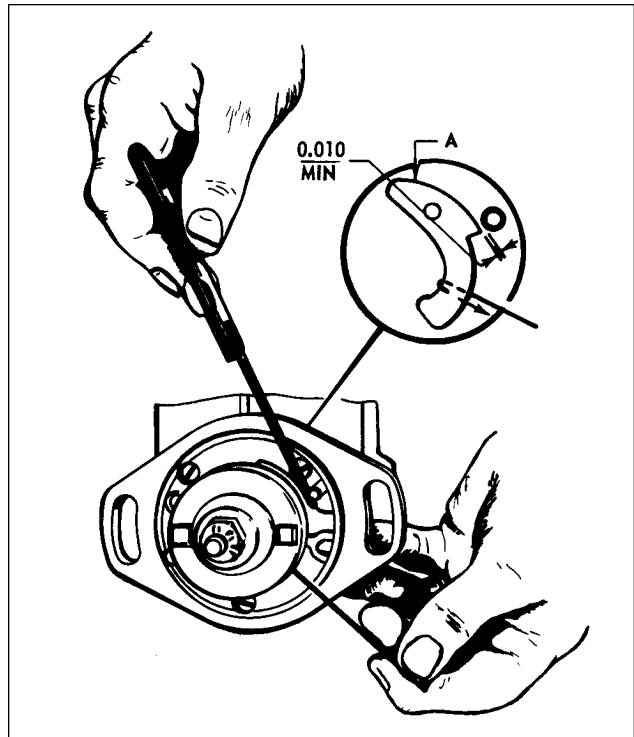

Figure 74-7. Timing Kit Installed
- C. Install the Bendix 11-8147 Plate Assembly to the breaker compartment of the magneto as shown in Figure 74-7.